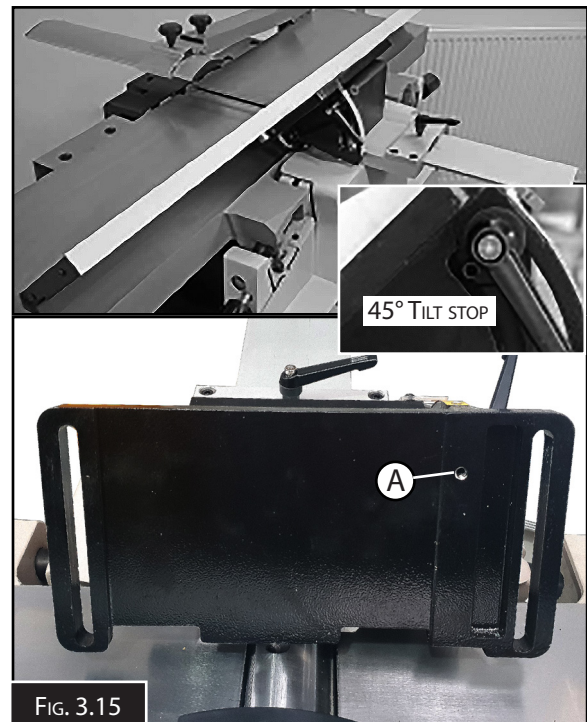

FIG. 3.15
1. Set the fence to 45° degrees by loosening the tilt clamping handle as before, place a mitre square up against the fence and check the angle with the outfeed table. Adjust the fence until correct and nip up the tilt clamping handle. Check that the pointer is at the 45 degree mark on the scale and the fence mechanism is against the 45° dead stop. (Fig.3.15)
3. With the fence mechanism clamped at 45° re move the fence to access the stop screw. ("A" in Fig.3.15)